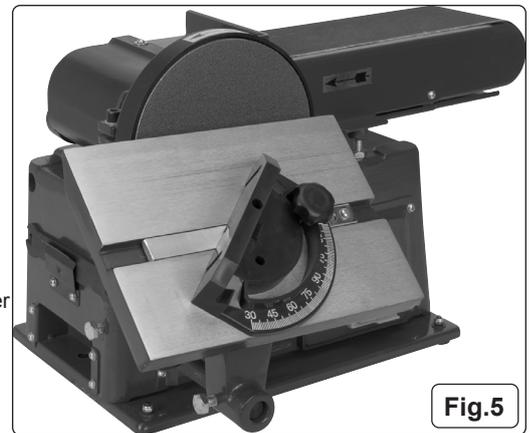

Fig.5
- 6.2.1. The table may be tilted through 45° by loosening the screw on the angle gauge (fig.5).